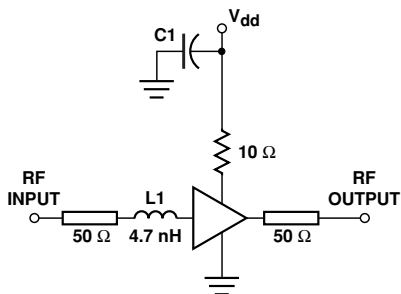

Figure 10. Test Circuit for 2 GHz.
3. Guaranteed specifications are 100% tested in the circuit in Figure 10 in the Applications Information section.
The circuit shown in Figure 10 is used for 100% RF testing of Noise Figure and Gain. The input of this circuit is fixed tuned for a conjugate power match (maximum power transfer, or, minimum Input VSWR) at 2 GHz. Tests in this circuit are used to guarantee the NF_{test} and G_{test} parameters shown in the Electrical Specifications table.
The test circuit in Figure 10 illustrates a suitable method for bringing bias into the MGA-87563. The bias connection must be designed so that it adequately bypasses the V_{dd} terminal while not inadvertently creating any resonances at frequencies where the MGA-87563 has gain.
The input of the MGA-87563 is partially matched internally to $50\ \Omega$. The use of a simple input conjugate matching circuit (such as shown in Figure 10 for 2 GHz), will lower the noise figure considerably. A significant advantage of the MGA-87563's design is that the impedance match for NF_o (minimum noise figure) is very close to a conjugate power match. This means that a very low noise figure can be realized simultaneously with a low input VSWR. The typical difference between the noise figure obtainable with a conjugate power match at the input and NF_o is only about 0.2 dB.